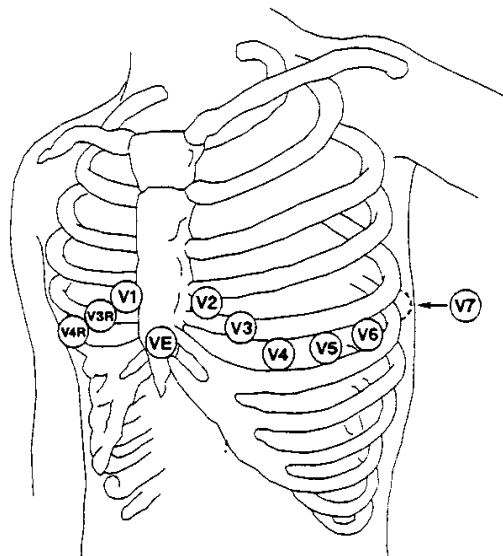

Figure12-3 C-Electrode Placement for 5-lead Set
- ◆ Red (R) electrode - Be placed near the right shoulder, directly below the clavicle.
- ◆ Yellow (L) electrode - Be placed near the left shoulder, directly below the clavicle.
- ◆ Black (N) electrode - Be placed on the right hypogastrium.
- ◆ Green (F) electrode - Be placed on the left hypogastrium.
- ◆ White (C) electrode - Be placed on the chest as illustrated in the Figure 12-3.
For 5-lead set, attach the C (V)-electrode to one of the indicated positions as below (Figure 12-3):